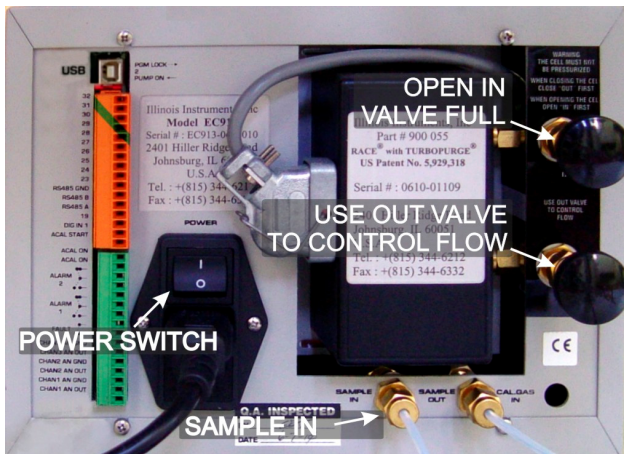

Figure 0-25 EC913 Oxygen Analyzer Rear Controls
2. During initial startup, adjust OUT valve until Sample Flow flowmeter on front of analyzer reads 0.1-0.15 L/min (Figure 0-25). On subsequent startups, the flow rate does generally not need to be adjusted.
on back of analyzer (Figure 0-25) to ON position.
2. Open IN valve full CCW (on back of analyzer, (Figure 0-25).